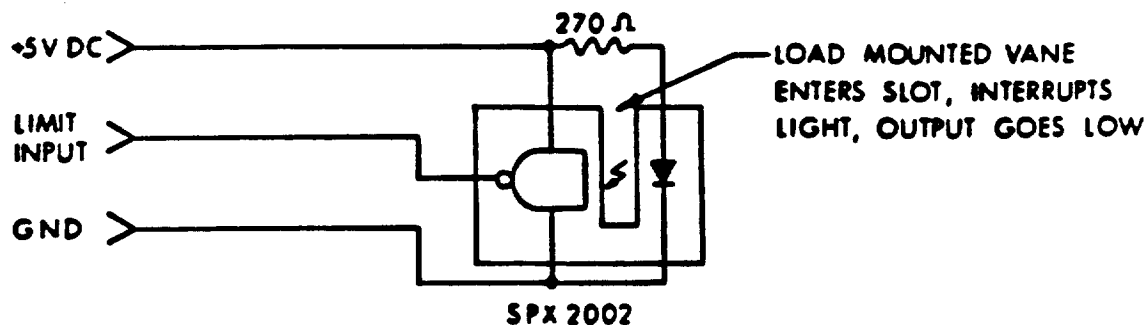

FIG 2.
3. Vane activated optical interruptor: the load has a vane mounted to it which either passes into or out of the interruptor at the limit depending on interruptor output polarity. The output must be normally high (normally "sourcing"). (e.g., Spectronics SPX2002) See Fig. 2.